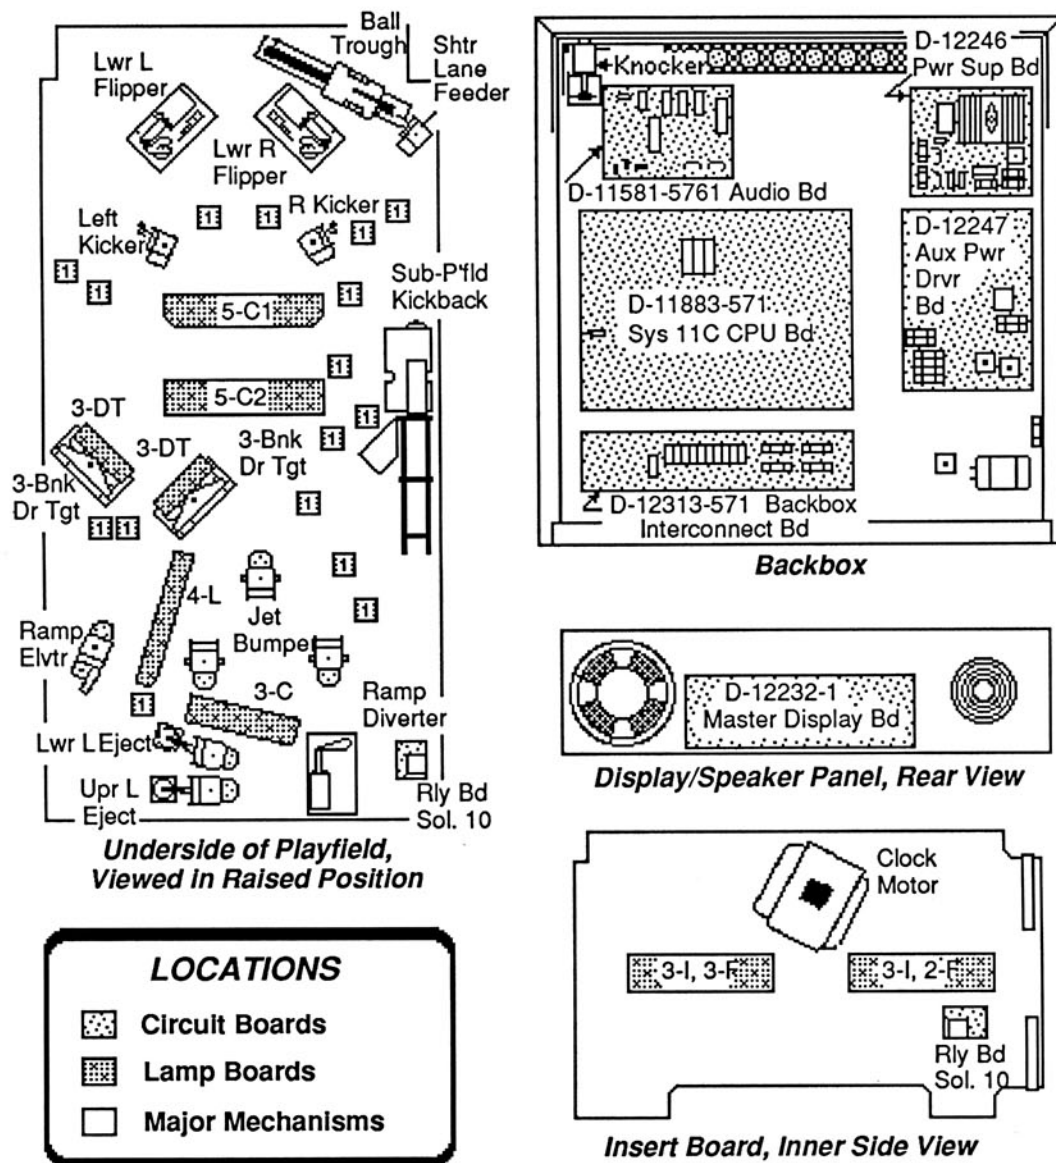
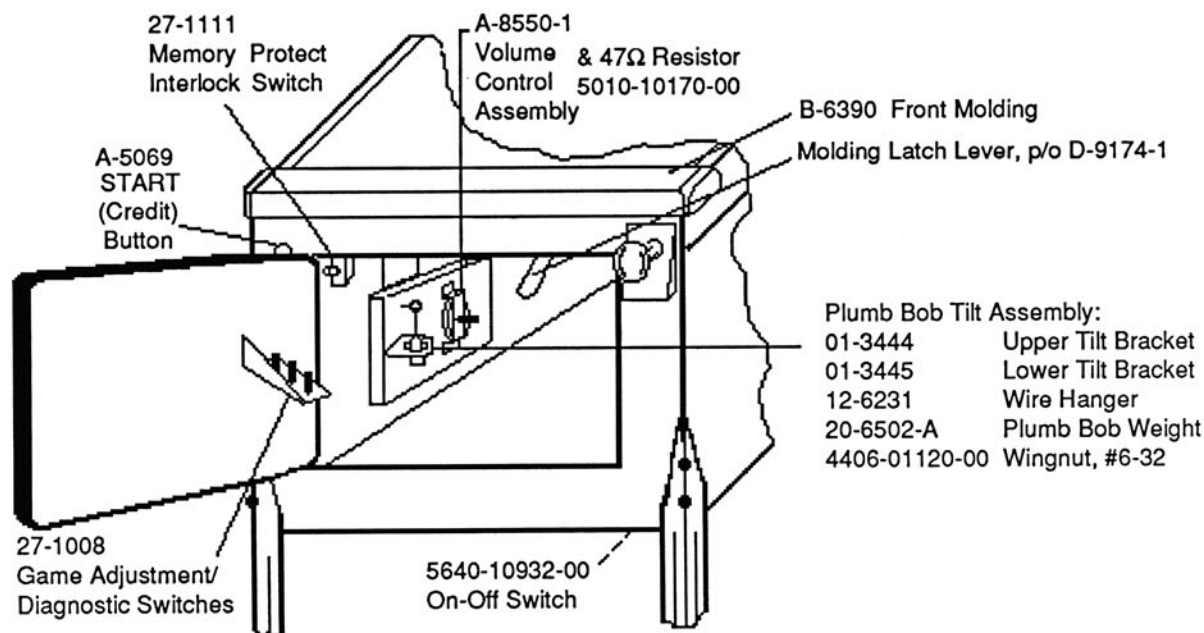

Figure 1. Locations Diagram - Game Circuit Boards and Major Mechanisms
Figure 2. Pinball Game Controls Locations
Figure 1 shows the locations of these circuit boards, as well as other devices especially located to make *D I N E R* a great game.
Figure 2 shows the locations of the following switches, except for the last one (CPU Diagnostic switch, which is shown in the Backbox portion of Figure 1, along the left edge of the CPU Board).
Figure 1 shows the location of the CPU Board switch (left edge of CPU Board, Backbox View).
7. Unlock and open the coin door. Locate the Molding Latch Lever (shown in Figure 2), and move the lever toward the left side of the game, to release the Front Molding. Lift the Front Molding off the playfield cover glass; return the Latch Lever toward the right, and close the coin door. Carefully slide the glass downward, until it clears the grooves of the Left and Right Side Moldings. Lift the glass up and away from the game, storing it carefully to avoid breakage.